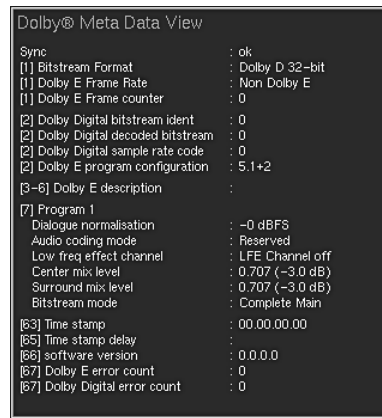

Fig. 5-45: Screen display of window 3 with Text1 function selected
(Buttons/keys 1 and 2, see Fig. 5-45)
(Button/key 3, see Fig. 5-45 – toggle function linked to Binary)